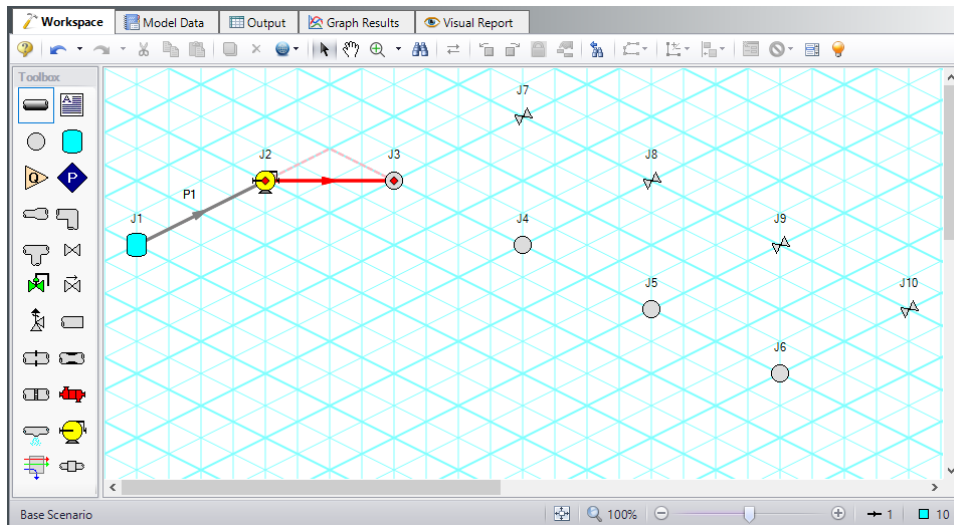

Figure 11: A preview line shows when drawing or adjusting pipes
6. Draw P1, as shown in Figure 11
7. Draw P2 from J2 to J3. A red-dashed preview line will show how the pipe will be drawn on the isometric grid. As you are drawing a pipe, you can change the preview line by clicking any arrow key on your keyboard or scrolling the scroll wheel on your mouse. Figure 11 shows Pipe 2 being drawn with the preview line.